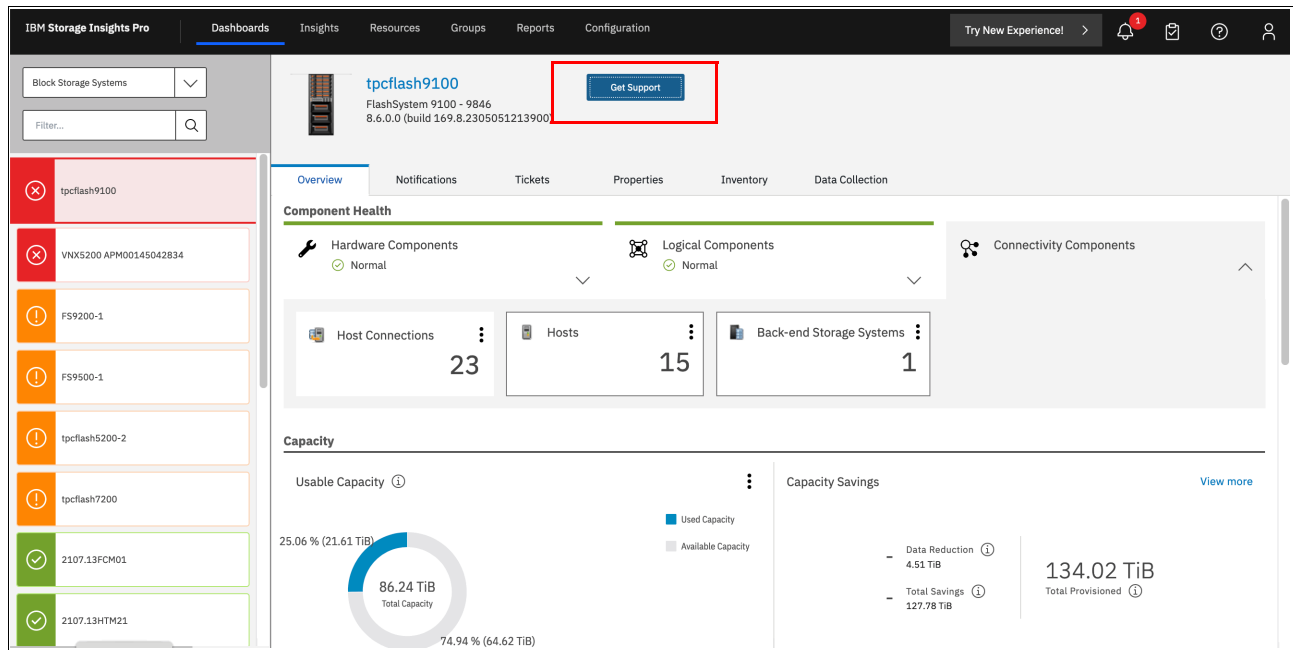

Figure 5-11 Get Support (see highlighted area)
1. Select the system to open the System Overview window and click **Get Support**, as shown in Figure 5-11.